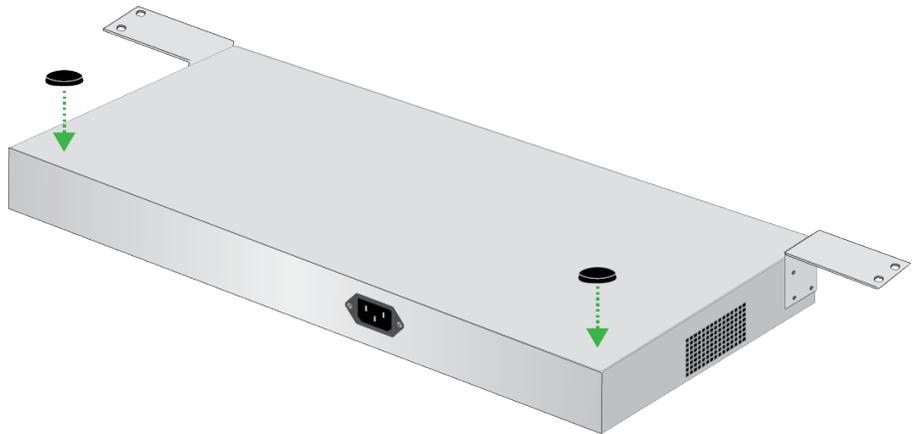

Figure 28. Attaching the Rubber Feet
5. Attach two rubber feet at the corners where the brackets are not installed. See Figure 28.